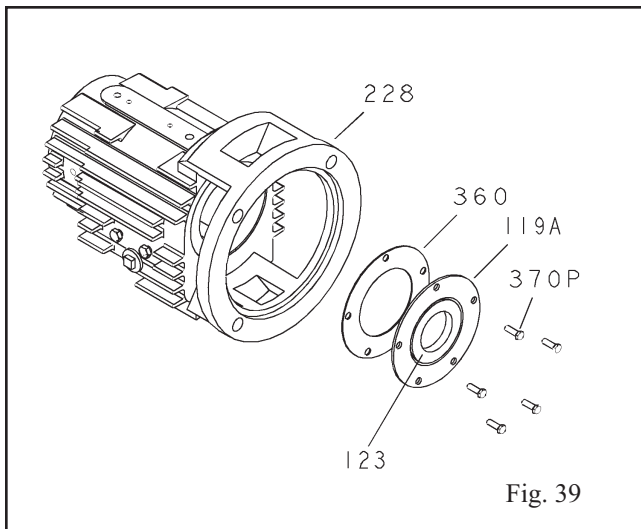
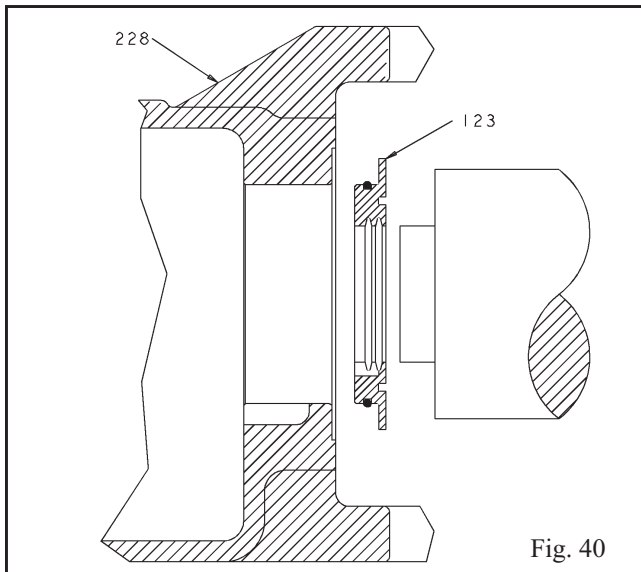

Fig. 39
Fig. 40
7. Press radial INPRO (123) into radial end cover (119A). Ensure expulsion port is at 6 o'clock position and is properly seated. Install radial bearing end cover (119A), and new end cover gasket (360) on bearing frame (228) (Fig. 39). For SA pumps, press radial INPRO (123) into bearing frame 228. Ensure expulsion port is at 6 o'clock position and is properly seated (Fig. 40).